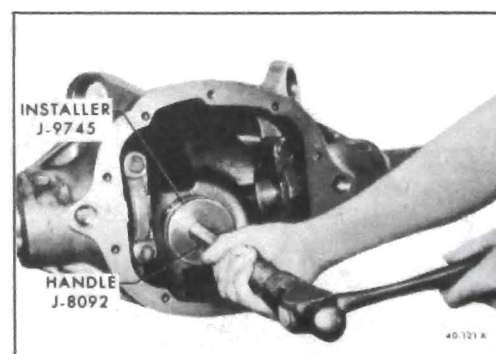

Figure 40-99 - Installing Rear Pinion Bearing Outer Race
1. If rear pinion bearing is to be replaced, install a new baffle and new outer race using Installer J-9745 with Driver Handle J-8092. See Figure 40-99.